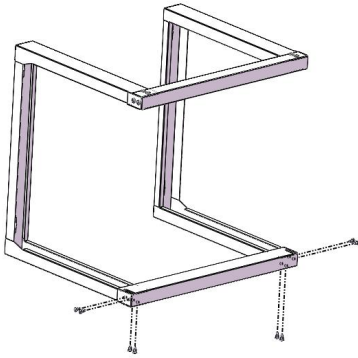

Figure 1
1. Insert the Bottom Crossbeam into left U Type Support and right U Type Support, Secure with 8pcs M5 assembly fix Screws .See Figure 1.